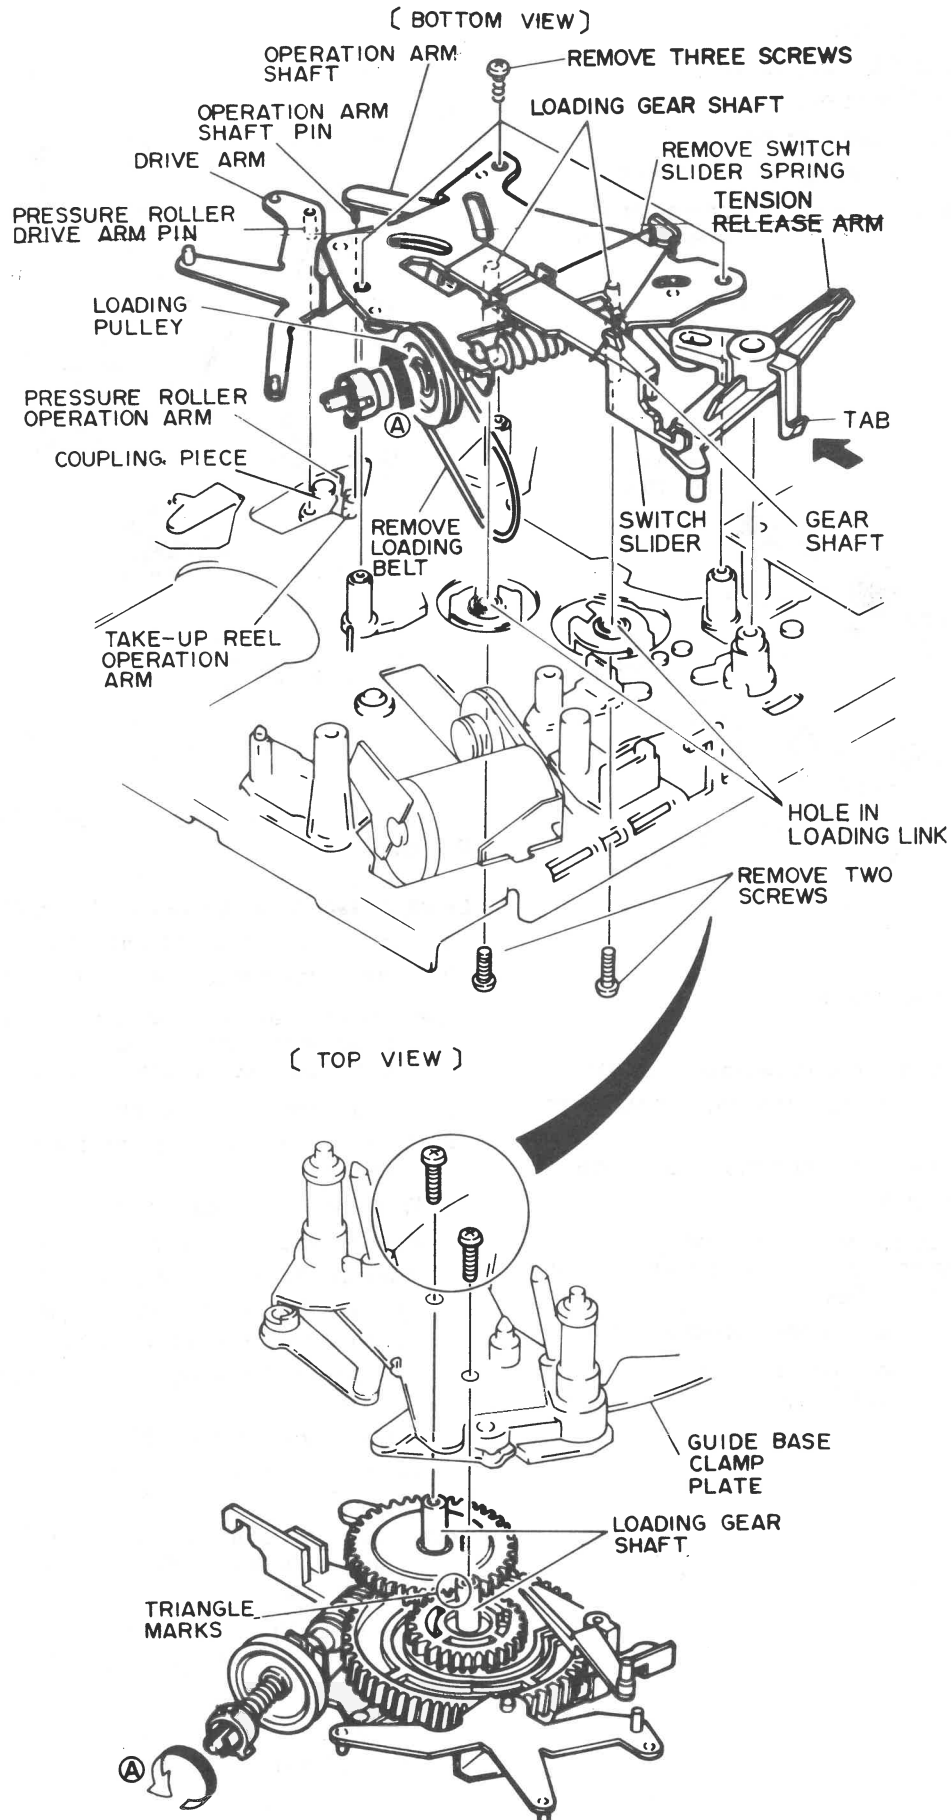

Fig. 32 Loading Gear Assembly Removal
**Loading Gear Assembly Removal (Fig. 32)**
4. Remove two (2) screws on the guide base clamp plate.